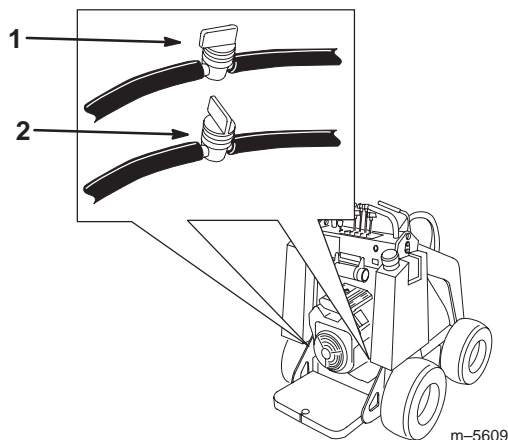

Figure 30
2. Shut off the fuel valve on the bottom of each fuel tank (Fig. 30).
3. Shut off the fuel valve in the hose near the bottom of each fuel tank as illustrated in Figure 30.
8. Open the fuel valve in the hose near the bottom of each fuel tank as illustrated in Figure 30.